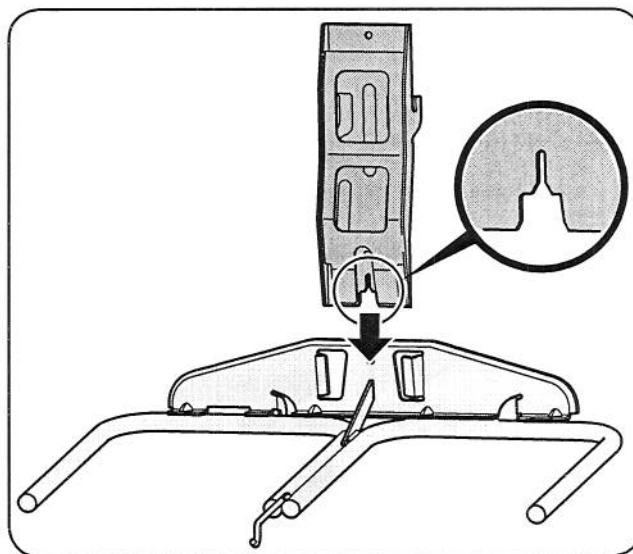
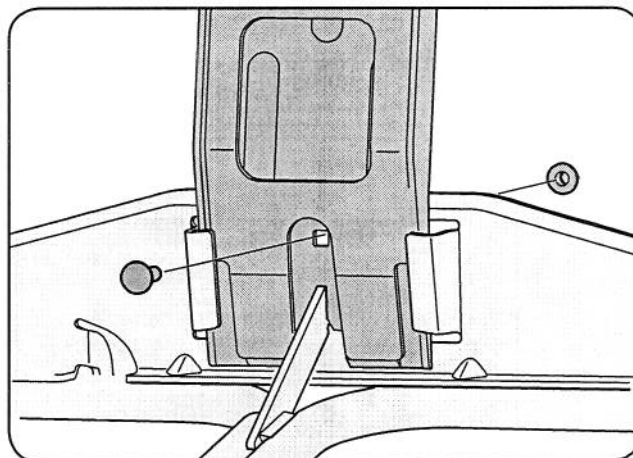

Figure 4-5
Figure 4-6
2. Insert the notched end of the vertical support bracket into the bag support assembly, as in Fig. 4-5, and secure with a carriage bolt (710-0276) and flange lock nut (712-04063) from hardware pack 689-00080. See Fig. 4-6.